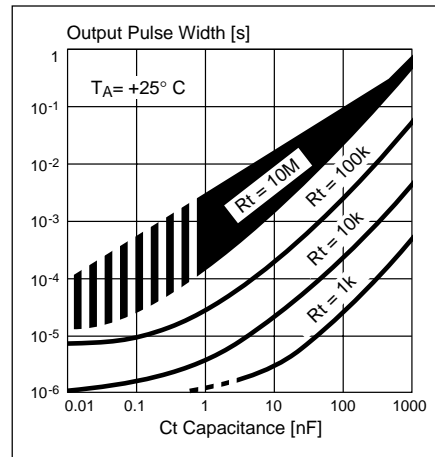

Figure 21. Typical t_{on} vs. C_t/R_t . Output pulse width vs. capacitance/resistance
- Figure 21 shows the relationship between C_T , R_T , and t_{on} . Care must be taken to keep the t_{on} time short, otherwise the current in the winding will rise to a value many times the rated current, causing an overheated IC or motor.